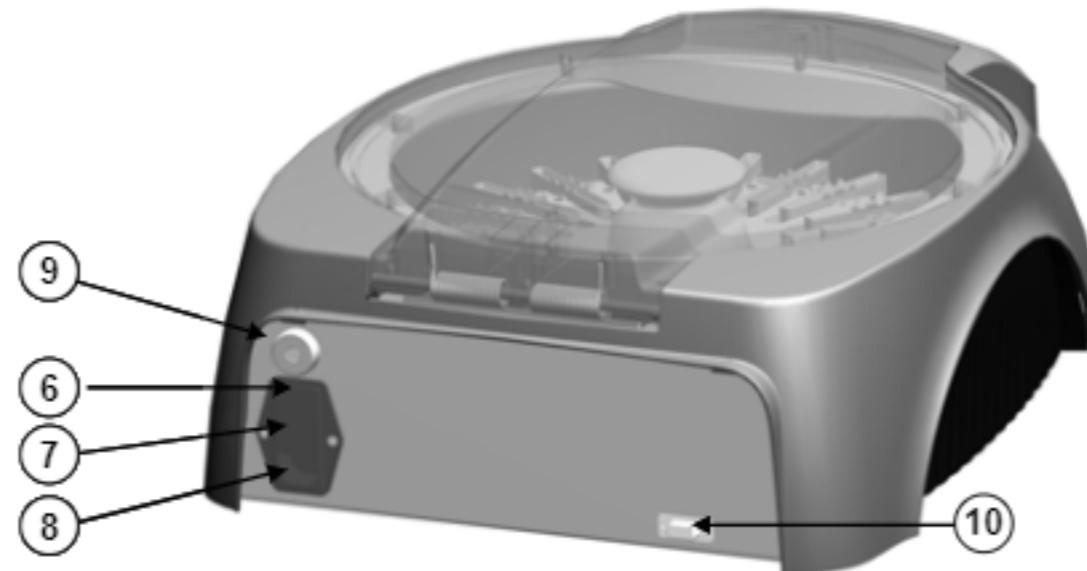

Figure 2 : Rear view of the *DG Spin* centrifuge
Figure 1 and Figure 2 show, respectively a front and rear image of the *DG Spin* centrifuge.
The Centrifugation chamber (Ref. (1), Figure 2) is the centrifuge's main working area.
- (1) Centrifugation chamber
- (2) Lean axle and Crosshead of *DG Spin* Head
- (3) Motor protective cover
- Connects the mains cord (Ref. (3), Figure 2) to the centrifuge and the mains.
- Switch on the Main switch (Ref. (6), Figure 2).
- Activate the Main switch (Ref. (6), Figure 2) and verify that the Display (Ref. (5), Figure 1) is switched on and shows the predefined centrifugation time.